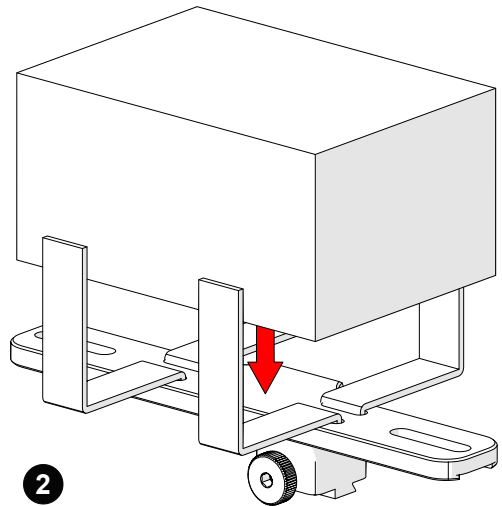

Fig. 102 - Place preamp and wrap velcro
2. Centre and place the preamp on the bracket wrapping the velcro around the preamp (*Fig. 102*).